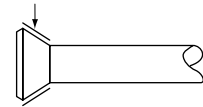

Fig. 15
- When connecting the flare nut, apply ester oil or ether oil to the flare section (outside only), and spin 3-4 times before screwing in. **(Refer to Fig. 15)**